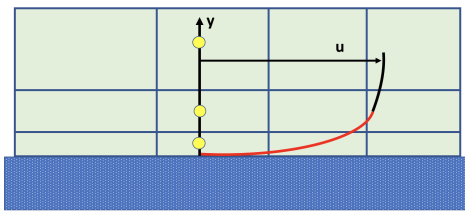

Figure 1: Wall function approach [2]
- Another way is to use the so-called **wall functions**, which can model the near wall region (figure 1). Normally, they are used not that interested in the forces of the wall and with high Reynolds numbers.